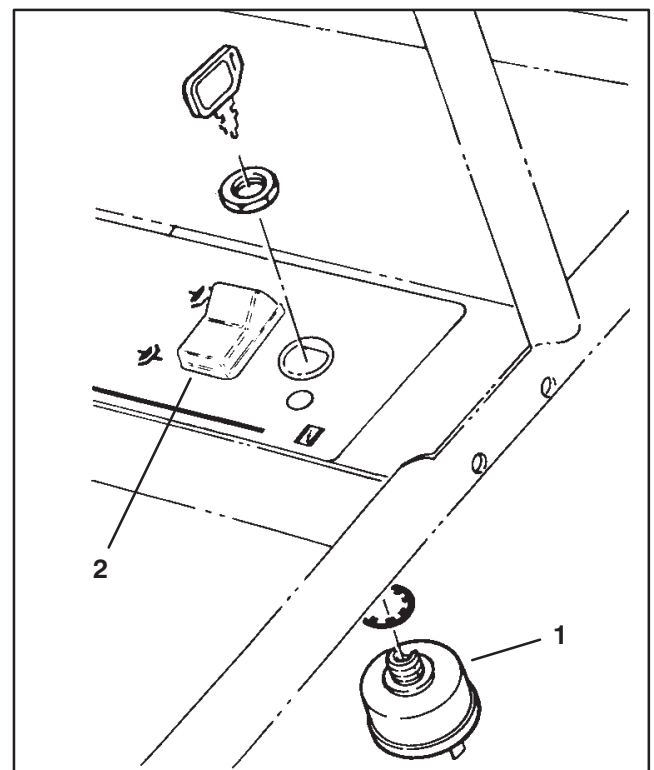
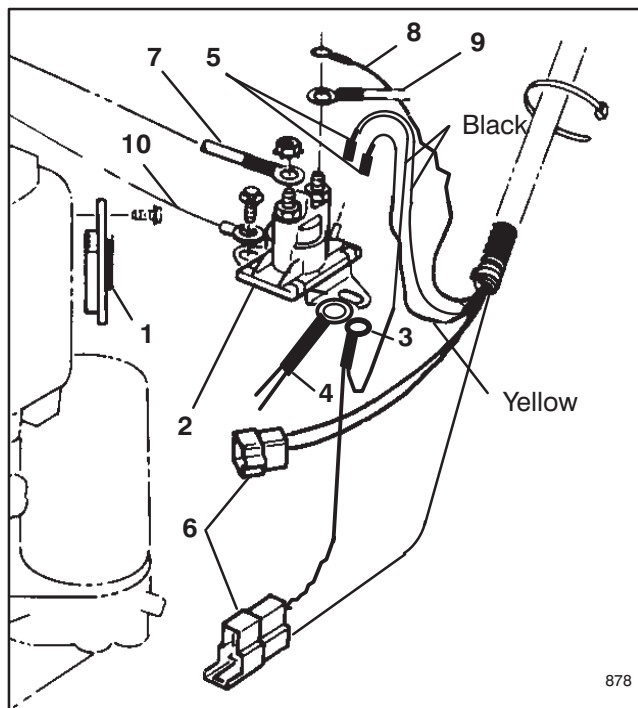

Figure 3
Figure 4
4. Remove nut and lock washer securing ignition switch to control panel and remove switch from panel (Fig. 3).
6. Install new ignition switch to control panel with lock washer and hex nut (Fig. 3).
9. Secure wire harness to throttle cable and fuel line with (2) cable ties.
10. Remove (2) screws securing rectifier to left rear corner of engine and remove rectifier. Install new rectifier with screws previously removed (Fig. 4).
11. With spade terminals positioned to the rear, mount the right side of solenoid and the small ring terminal end of 14" black cable, from starter motor, to frame with a self tapping screw. Mount the left side of solenoid and the small ring terminal end of 22" black, negative (-) battery cable and small, two wire, ring terminal from clutch connector, to frame with a self tapping screw (Fig. 4).
12. Press spade terminals of yellow and double black wires from harness onto terminals at rear of solenoid (Fig. 4).
13. Secure male and female clutch and engine connectors (Fig. 4).
14. Secure larger ring terminal end of 12" red starter motor cable to front terminal of starter solenoid with locknut and opposite end of wire to bottom of starter motor (Fig. 4).
15. Secure ring terminal wire (gray) from harness and 21" red, positive (+) battery cable to top, rear terminal of starter solenoid with locknut (Fig. 4).